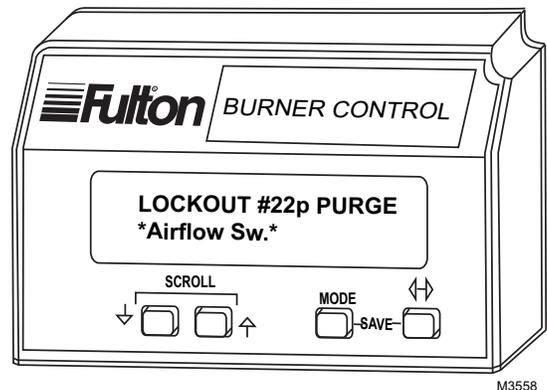

Fig. 1. Lockout message state 1.
1. State 1, see Fig. 1. Display of first state message lasts six seconds. The first line on the display shows the word LOCKOUT, followed by the fault code number and a lower case letter if an Expanded Annunciator is connected. The status of the relay module at the time of the lockout is shown on the right side of the first line as either INITIATE, STANDBY, PURGE, PFEP, MFEP, RUN or POSTPRG. The lockout reason corresponding to the fault code number is displayed on the second line, highlighted by asterisks to each side. If the lockout reason is being enhanced due to the presence of an